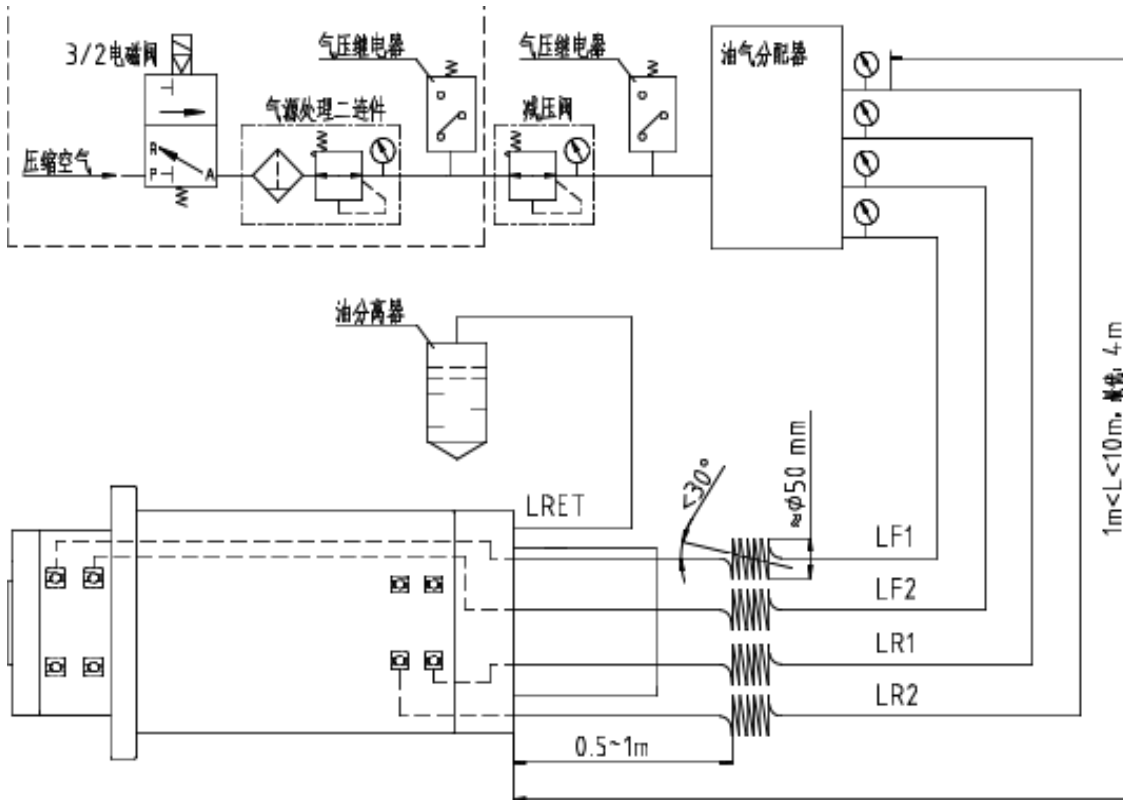

Figure 4.7 Oil-gas lubrication control connection diagram
1)The oil-gas lubrication system is connected according to Figure 4.7;
6)The air circuit system should be connected to the pneumatic relay according to Figure 4.7 for real-time monitoring to ensure the normal supply of compressed air;